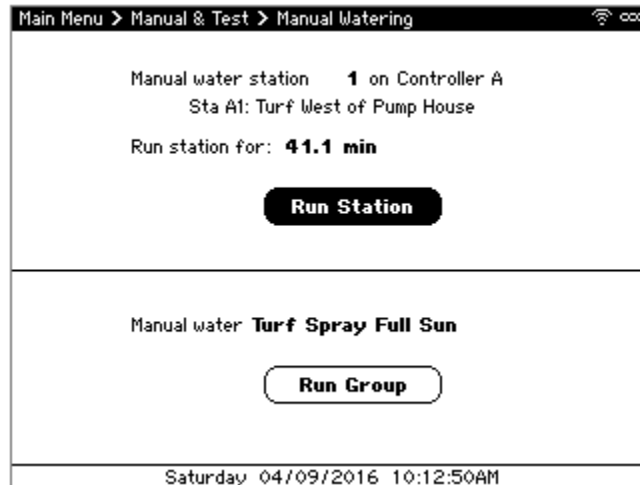

Figure 8 - Manual Watering screen
2. Navigate to **Manual Watering** and press **SELECT**. The Manual Watering screen displays (Figure 8).